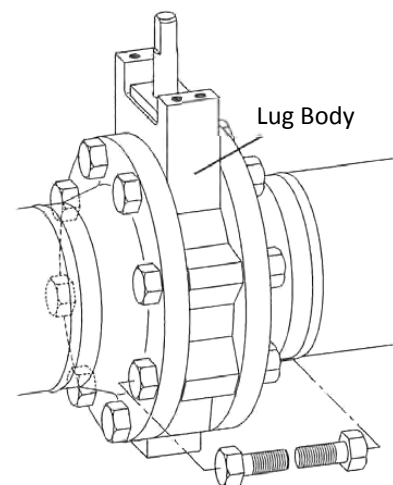

Figure 10
3. Lug body valves should be positioned between the flanges with gaskets properly centered and then the capscrews inserted (Figure 10).